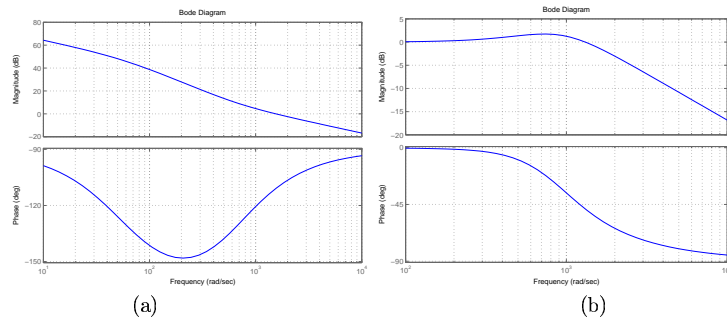

Figure 3: Bode plots for (a) open-loop and (b) closed-loop systems
- (d) Figure 3 shows bode plots for (a) the open-loop and (b) closed-loop systems. Hence (or otherwise) estimate the phase margin and the closed-loop bandwidth.